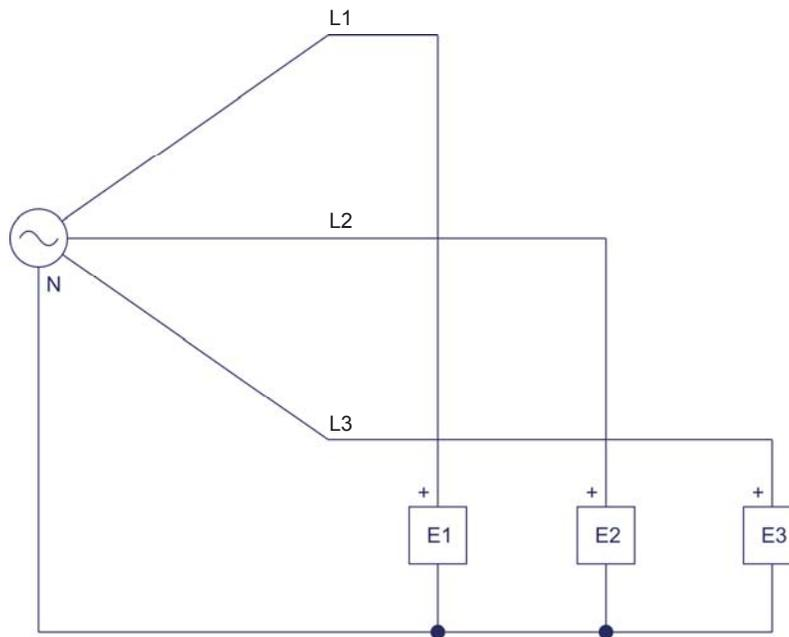

Figure 24. Circuit set up for determining the phase sequence of the three-phase ac power source in the *Power Supply*.
4. Set up the circuit shown in Figure 24.